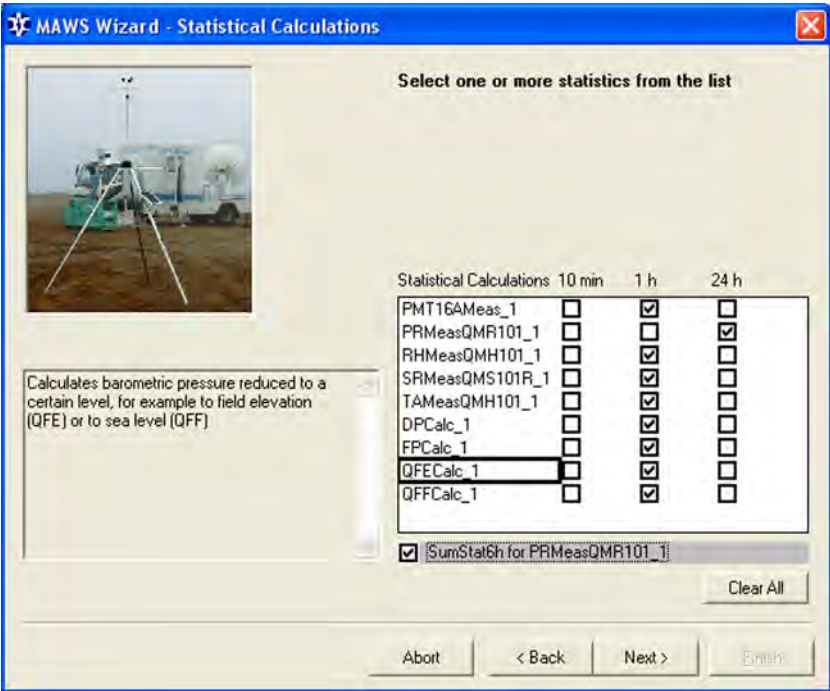

Figure 17 Selecting Statistical Calculations
7. In the **Statistical Calculations** view presented in Figure 17 on page 39, you can select the statistical calculations you want for your setup. You can select 10-minute, 1-hour, and 24-hour calculations. After selecting the necessary calculations, click **Next**.